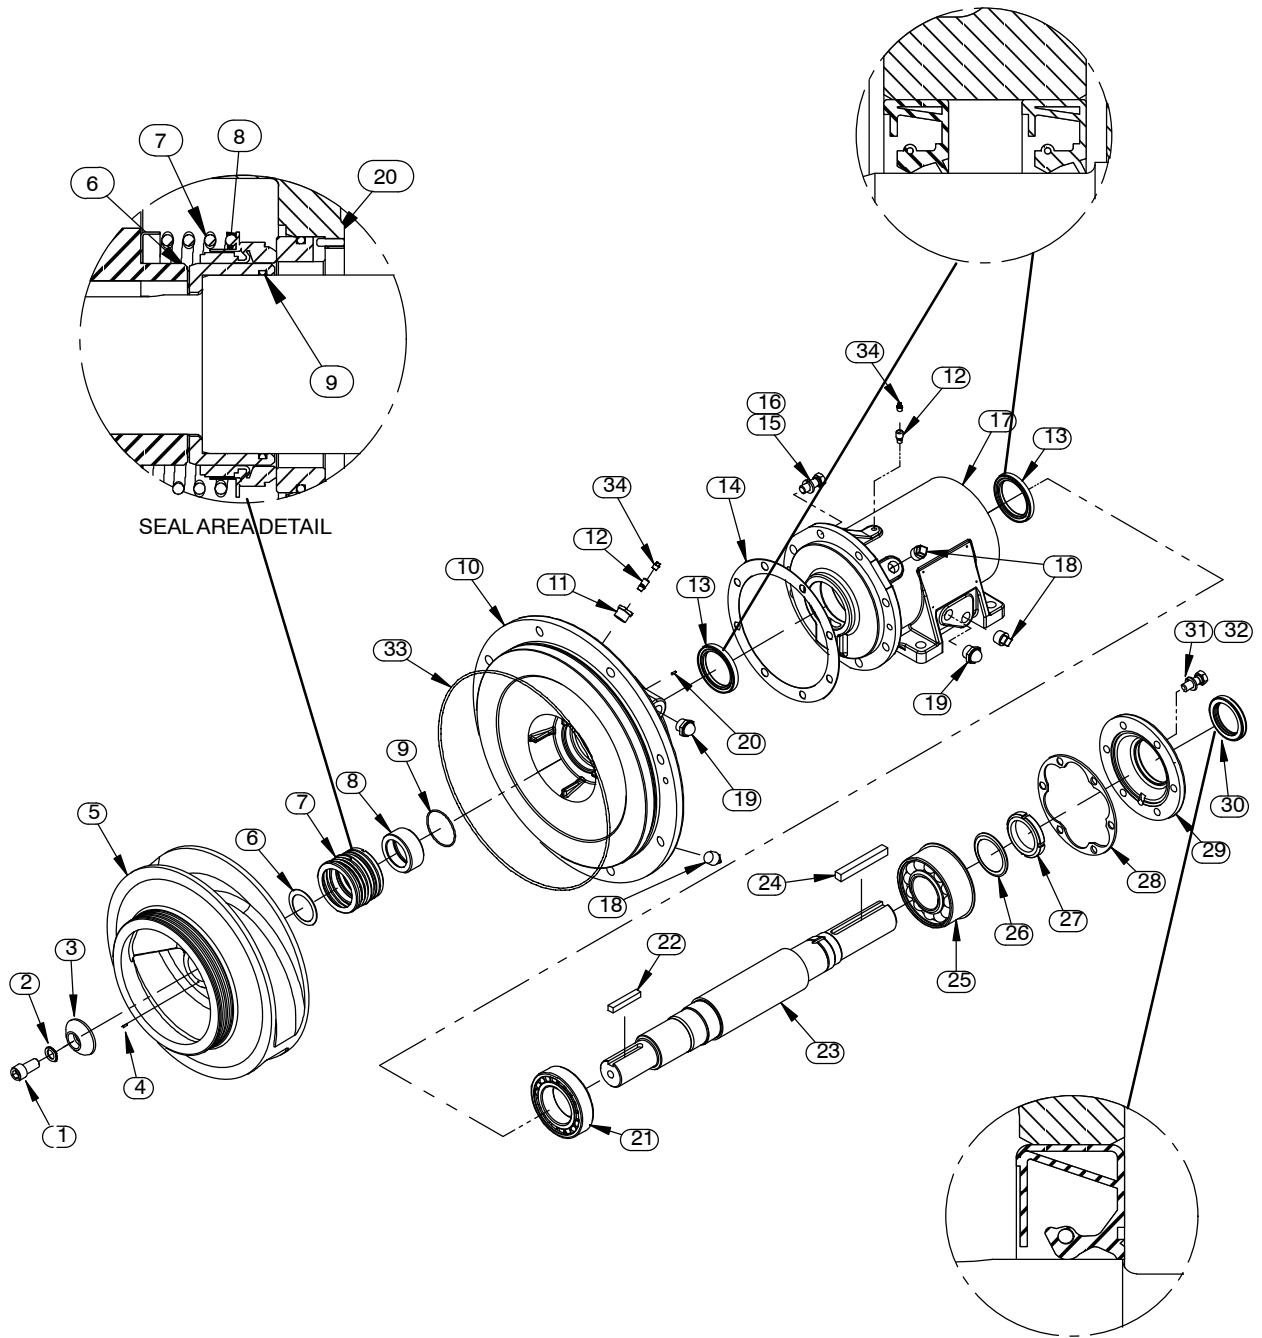

Figure 2. Repair Rotating Assembly
(Figure 2)
(Figures 2 and 3)
Further disassembly requires separating the rotating assembly from the power source. Remove the coupling securing the rotating assembly to the power source and remove the key (24, Figure 2).